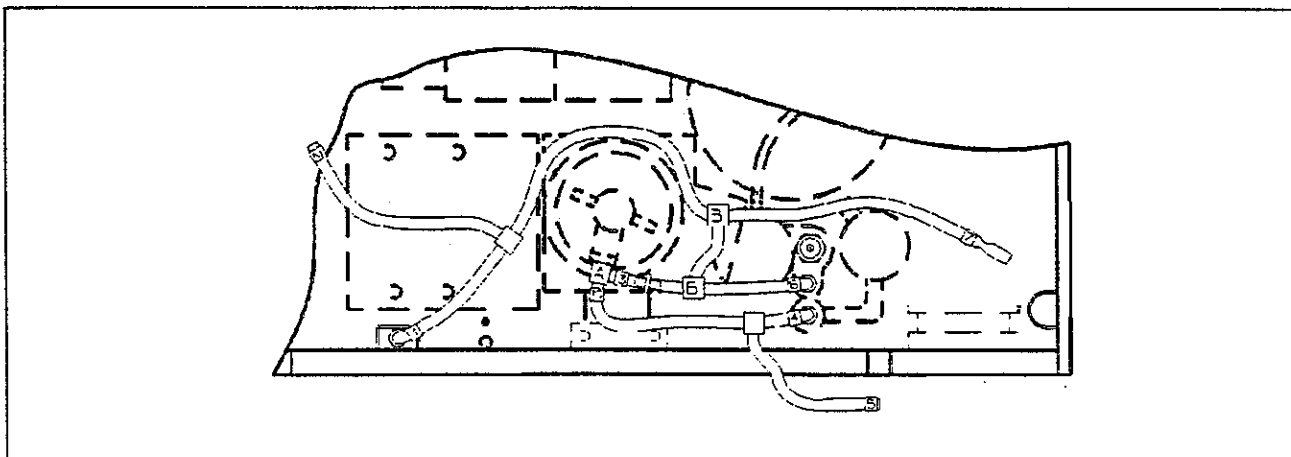

Fig. 14.0
13.2 Install and secure using $\frac{1}{4}$ " nut driver, the barbed fittings to the manifold castings as follows (See Fig. 14.0):